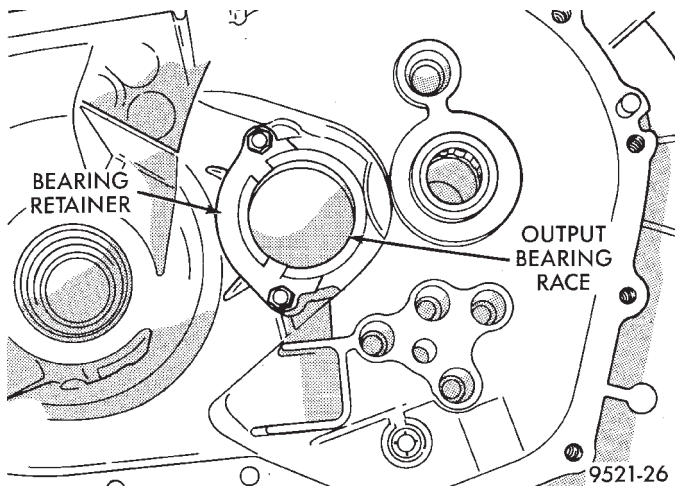

Fig. 133 Output Bearing Strap
- (2) Remove screws at output bearing retainer strap (Fig. 133).